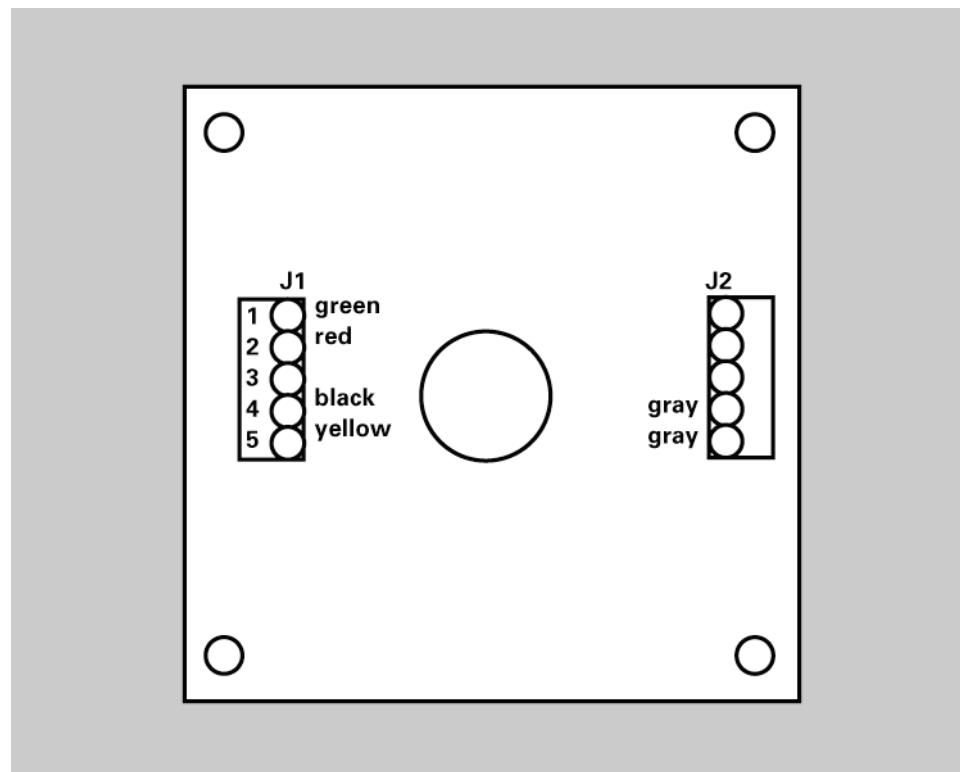

Figure 37
3. Connect the cable conductors on the opposite end of the cable to terminal block J1 on the PCB in the switch enclosure as shown in Figure 37.
10. Connect the cable conductors to terminal block J1 on the PCB of switch enclosure #2 as shown in Figure 37(the same as the single switch configuration).